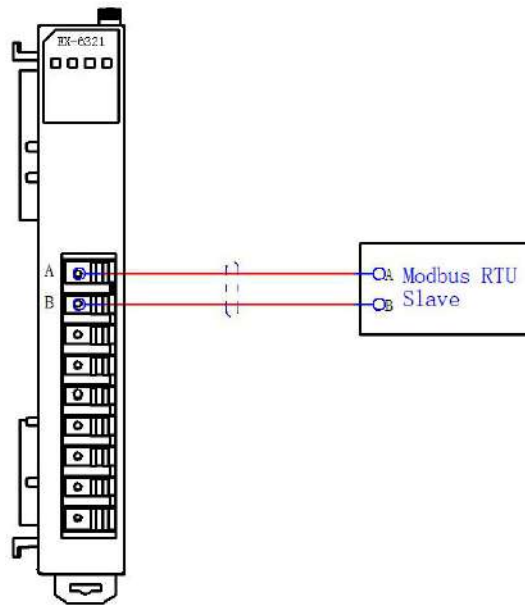

Figure 4-21 Wiring diagram of the EX-6321 module
- Figure 4-21 shows the wiring diagram for the EX-6321 module.